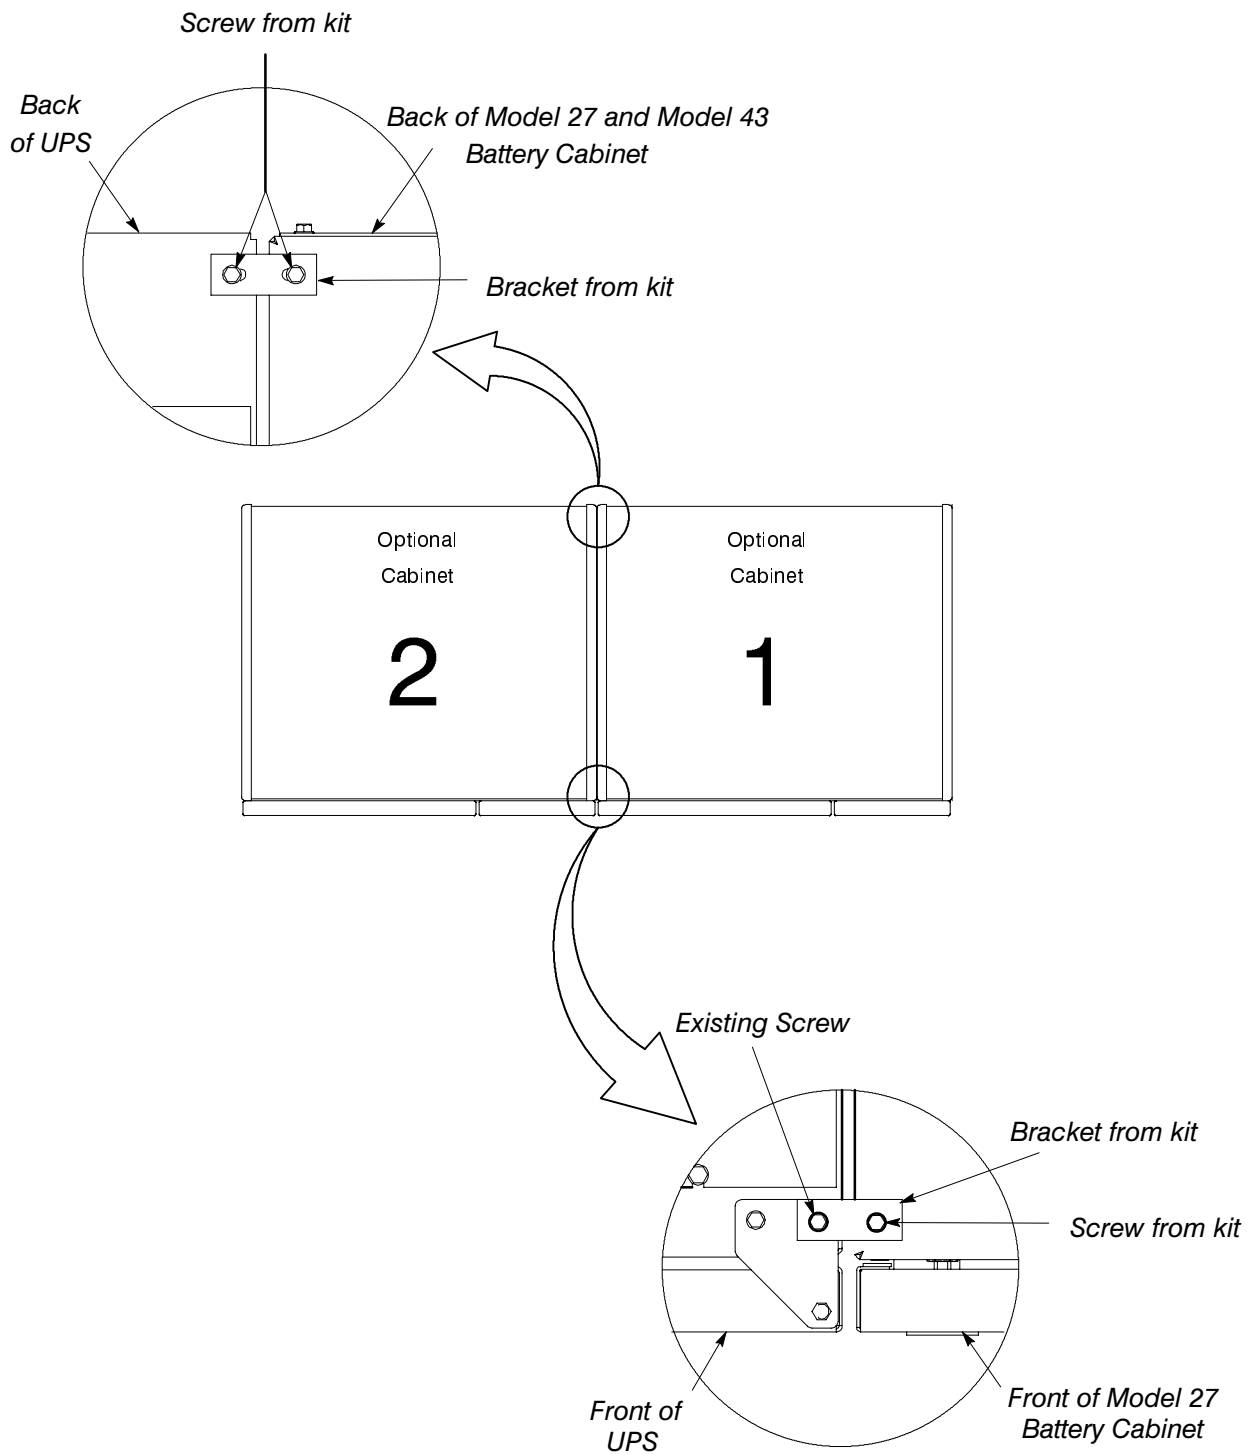

Figure 12. Joining Component Cabinets
4. Push cabinet #2 from the front until both cabinets are aligned at the rear (as shown in Figure 12). This action will seat the rear-joining clamps.
5. Locate the hardware joining kit taped to the top of either cabinet. Using two hex head bolts and two hex head nuts from the hardware joining kit, secure the fronts of the two cabinets as shown in Figure 12.